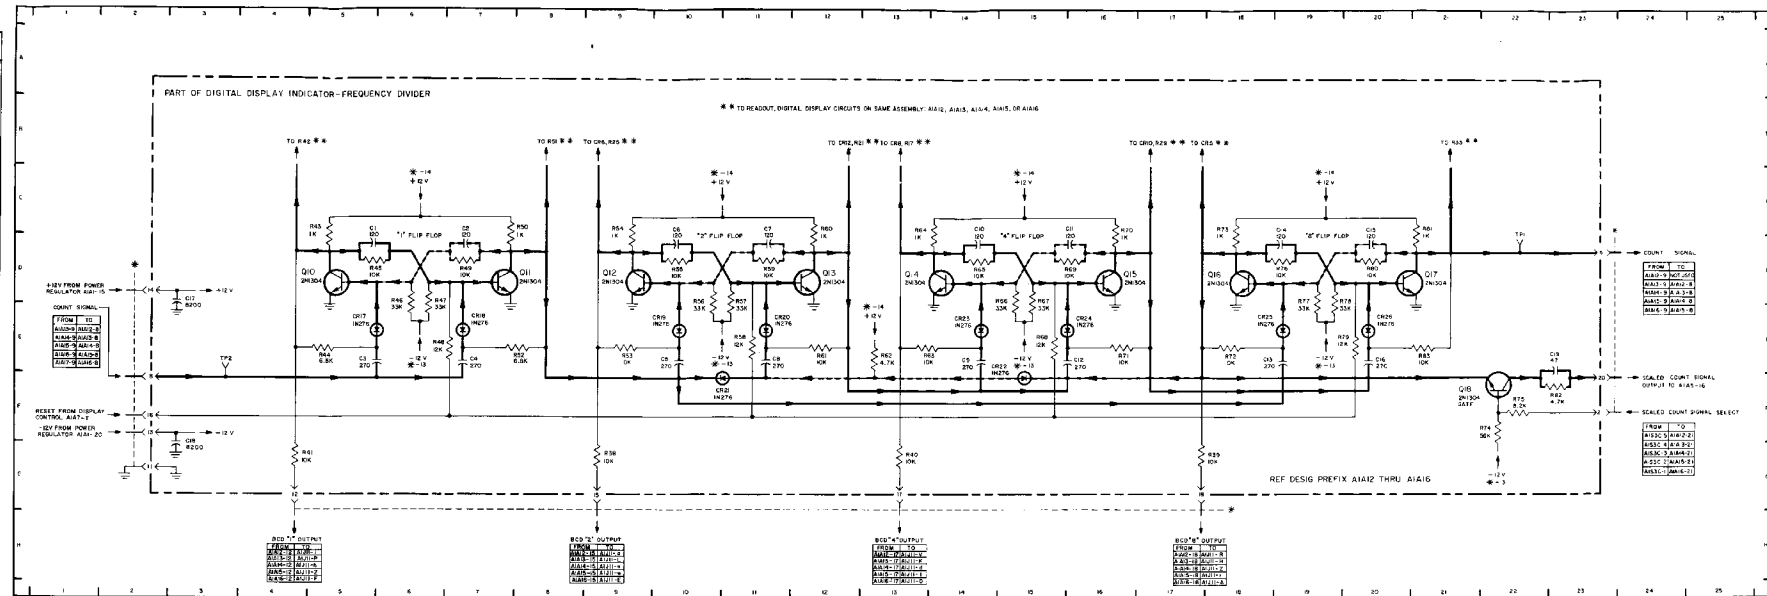

Figure 5-75. Count Decades, Frequency Divider Circuits on A1A12 through A1A16, Schematic Diagram
- Counter portions of assemblies A1A12 through A1A16 are identical and are represented by figure 5-75.